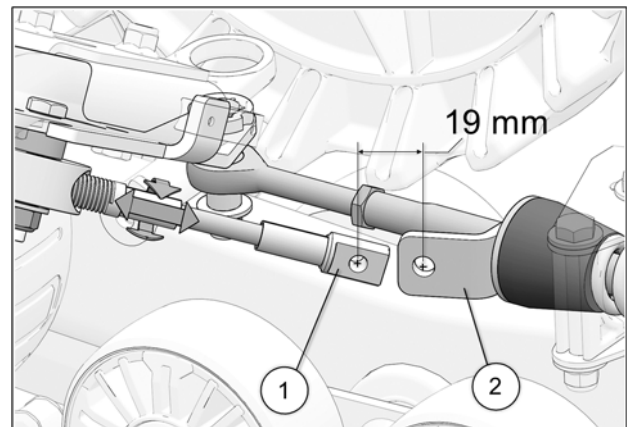

Fig. 26
15. Turn the vehicle's steering wheel to its maximum point of travel on the left. While maintaining pressure on the steering wheel, turn threaded rod to adjust length of cable. See Fig. 26
16. Position cable end hole (1) 19 mm [ $\frac{3}{4}$  in.] short of support plate (2) mounting hole. See Fig. 26